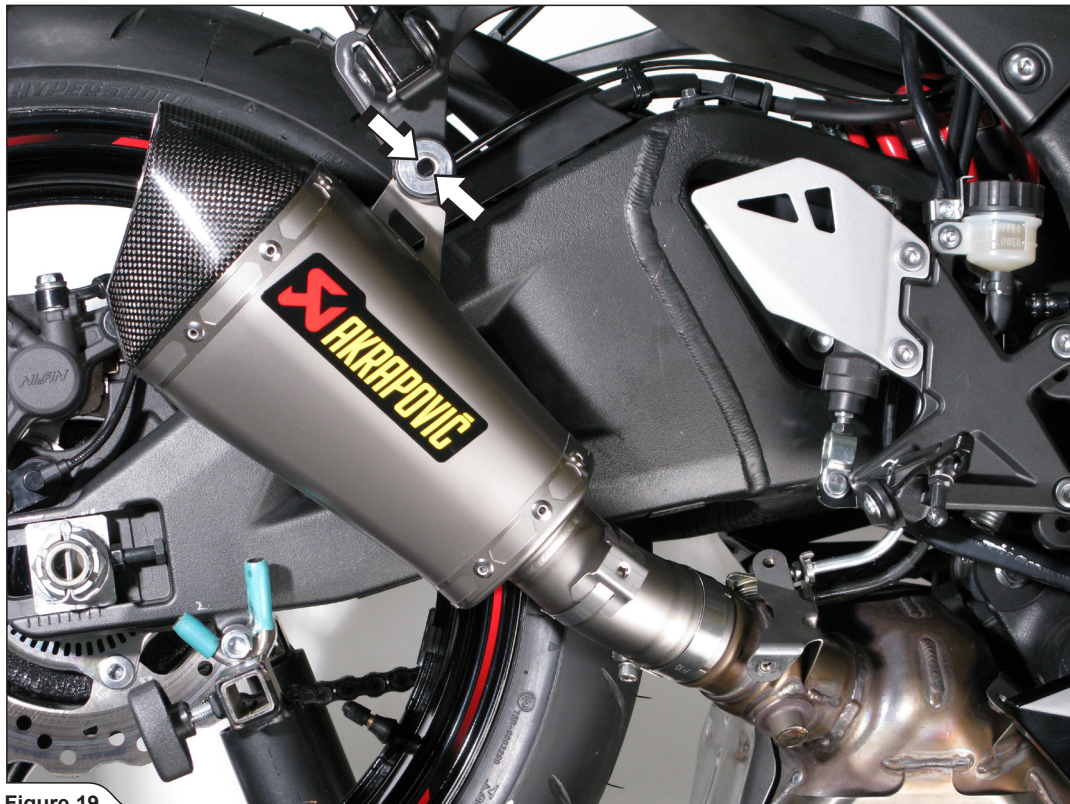

Figure 19
9. Slide the muffler onto the outlet side of the collector (**Figure 19**).